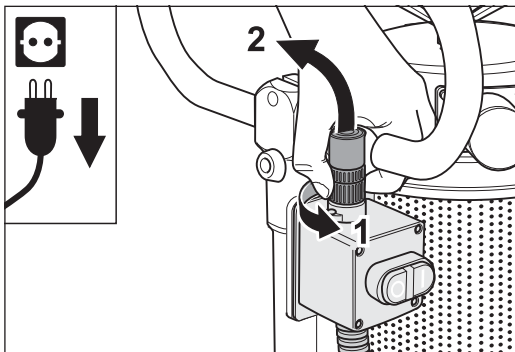

Fig. 63 Loosen the ring nut (1) and remove the cable plug from the switch (2).
- 3** Loosen the cable plug of the sensor on the on/off switch by turning the ring nut **counterclockwise** (fig. 63, 1) and pull the cable plug off (fig. 63, 2).